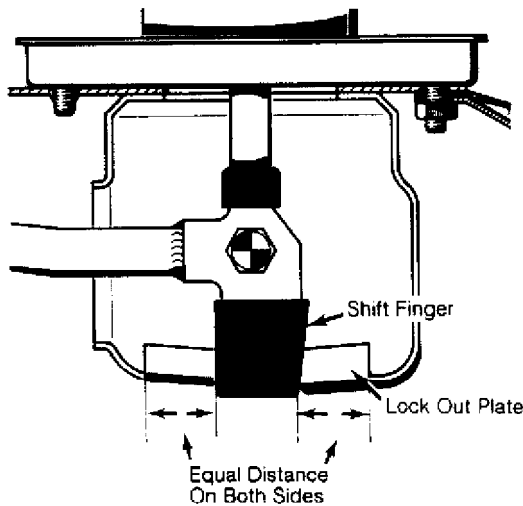

Fig. 5: Adjusting Scirocco Shift Finger
1) Pull boot off housing. Loosen shift rod clamp bolt so lever moves freely on shift rod. Adjust shift finger in center of lock-out plate so that an equal distance is obtained on both sides of shift finger. See Fig. 5.